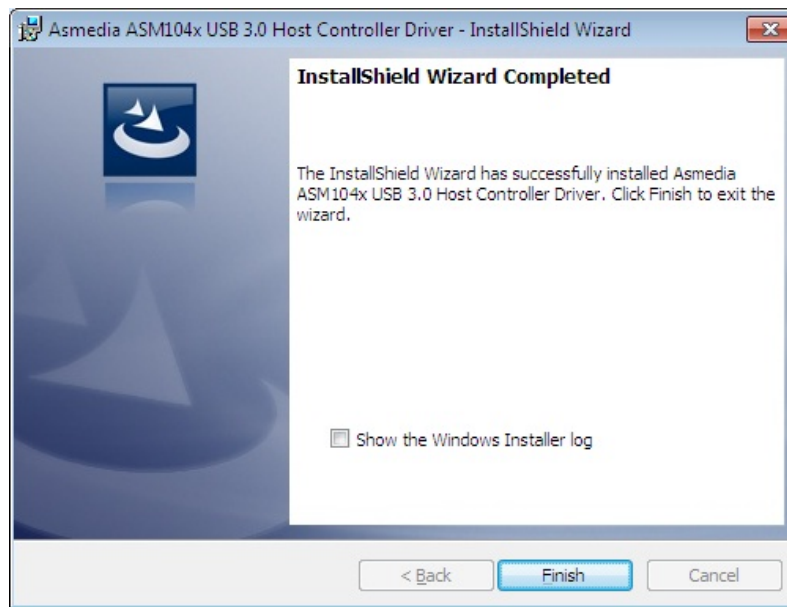

Figure 6-24: USB 3.0 Driver Installation Finish Screen
Step 10: When the driver installation is complete, the screen in **Figure 6-24** appears.